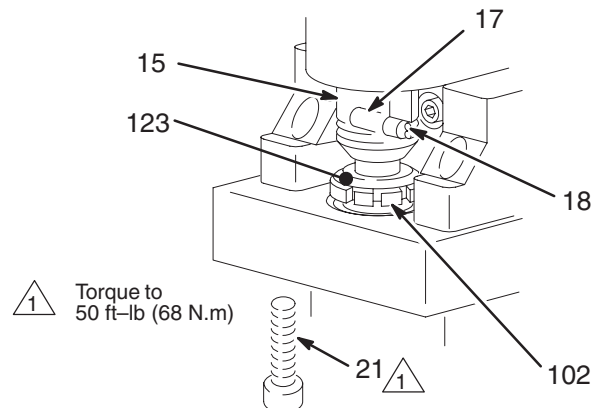

Fig. 10
- a. Remove the pump connecting rod pin (17). See Fig. 10, page 12.
11. **Break in the brushes.** Operate the sprayer for at least one hour with no load. Install the pump connecting rod pin. See Fig. 10, page 12.
Be sure the retaining spring (18) is firmly in the groove all the way around, to prevent the pin (17) from working loose due to vibration. See Fig. 10.